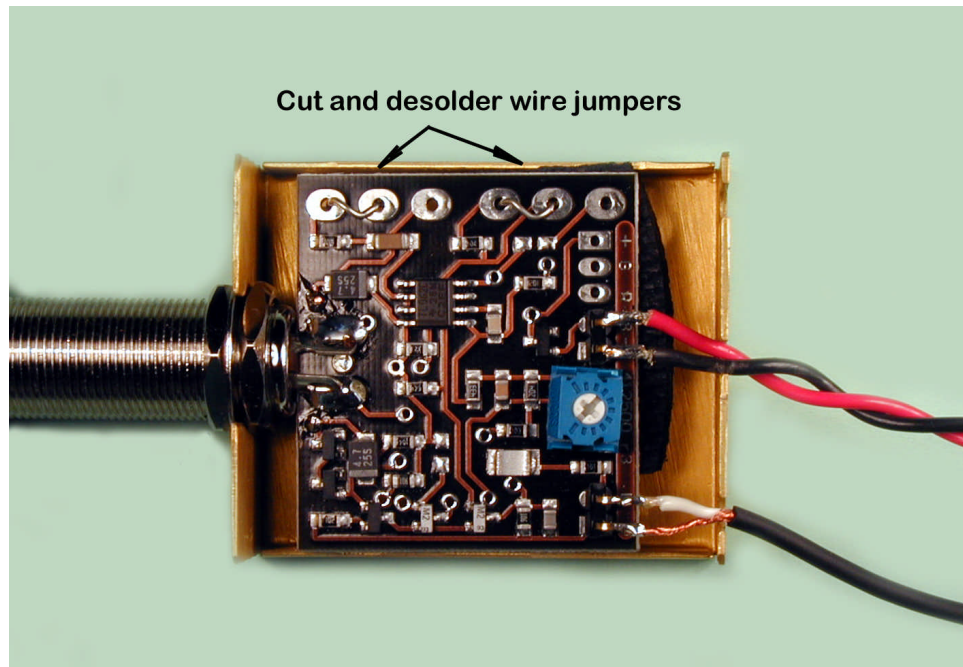

Figure 1 - Remove two jumper wires
4. First cut and then desolder and remove the two wire jumpers on the PCB. If you are only installing one of the two controls, be sure to cut the appropriate jumper and leave the other intact. Refer to Figs.1 and 3.
7. Check your work. Refer to Figs. 1, 2, 3 and 4.